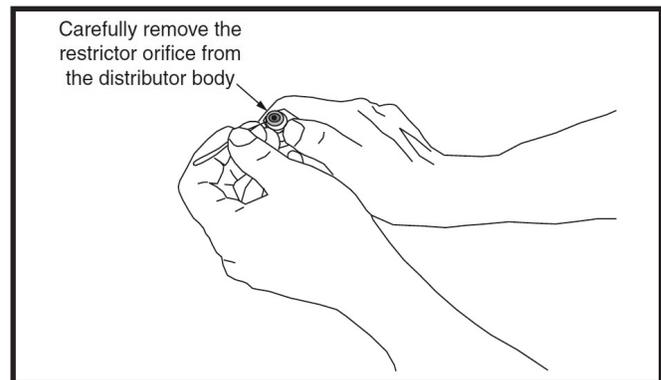

Figure 7. Restrictor Removal from Distributor Body
6. Insert a light-gauge wire hook between the distributor body and the restrictor orifice while being careful not to scratch either part. Carefully remove the restrictor orifice from the distributor body. See figure 7.